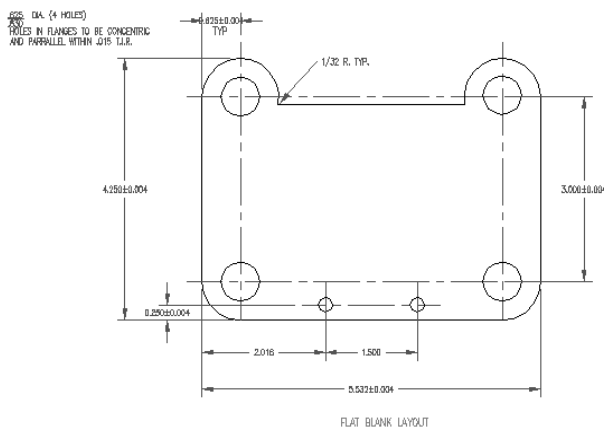

**Figure 15-35:** The dimensions have been added.
12. Save your drawing. It should look like Figure 15-35.